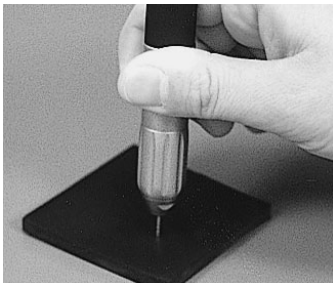

Fig.7
(1) As the chuck of the PRESTO handpiece is a push-in type, set the FG burs of $\phi 1.6\text{mm}$ and push in as shown in Fig.7